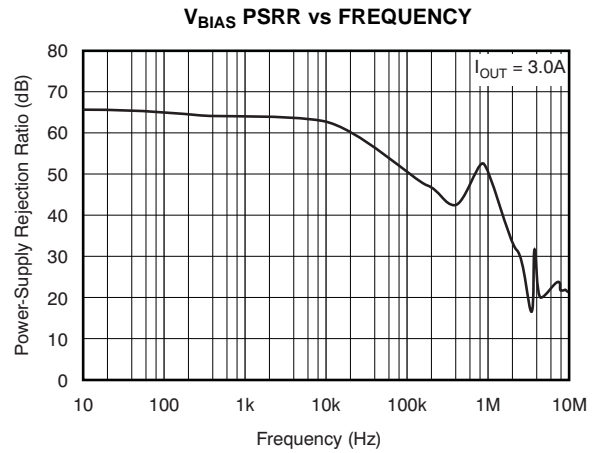
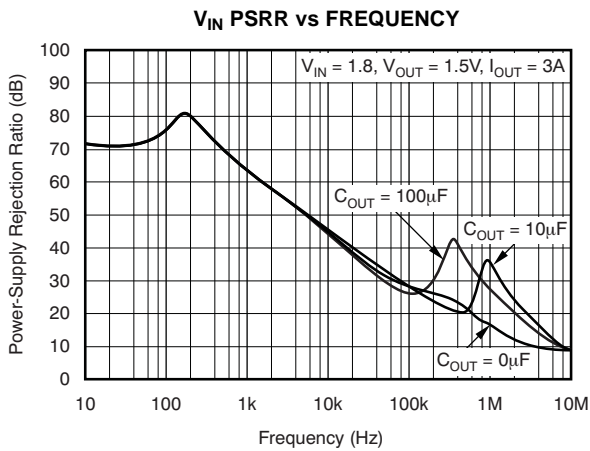

Figure 10.
Figure 13.
- (1) Adjustable devices tested at 0.8 V; external resistor tolerance is not taken into account.
- (2) Dropout is defined as the voltage from the input to  $V_{OUT}$  when  $V_{OUT}$  is 2% below nominal.
- (3)  $I_{FB}$  current flow is out of the device.
- (4) See Figure 10 to Figure 13 for PSRR at different conditions.